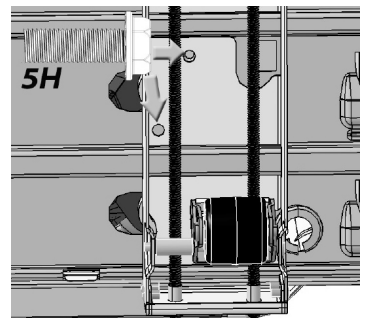

Fig. 6
- c. Using a 5H bolt and a power drill, fasten the bottom of the Leveler Assembly with a $\frac{3}{8}$ " hex drill bit in whichever hole overlaps the screw hole (Fig. 6).